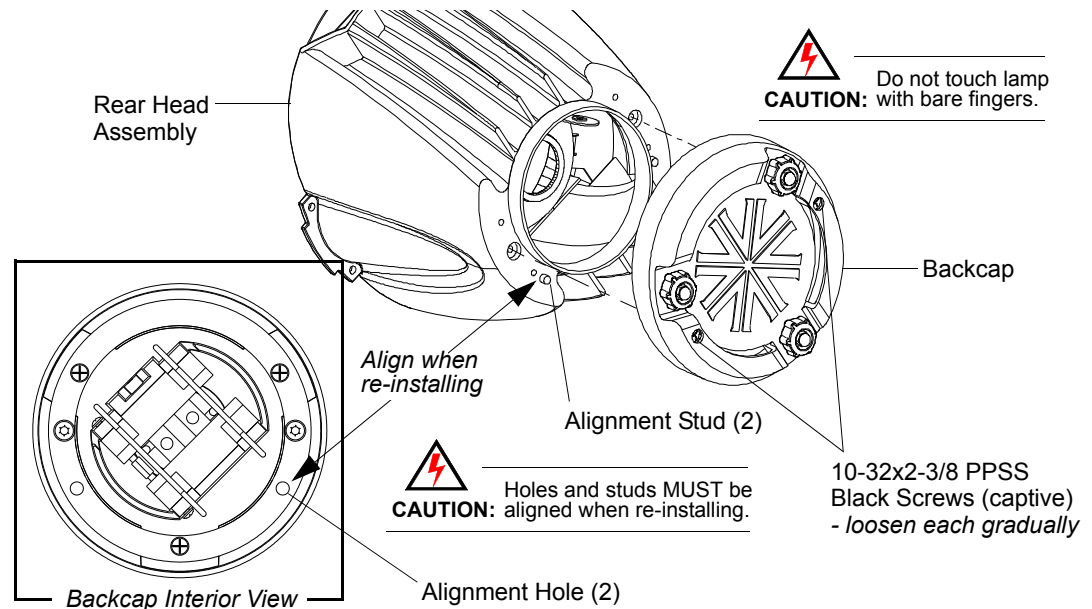

Figure 2-1: Removing Incandescent Backcap
- Step 2. At backcap, gradually loosen two 10-32x2-3/8" PPSS black screws (Figure 2-1) a few turns at a time until backcap is free. (Screws must be alternately loosened to prevent one side from locking up.)
Step 8. Re-install backcap, ensuring that alignment studs and holes are aligned (Figure 2-1).